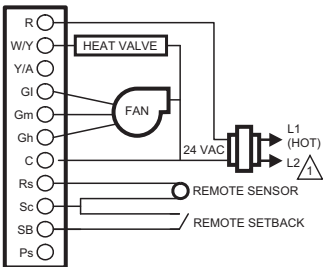

Fig. 14. Two pipes Heat-only wiring diagram (24 Vac shown).
- TB8575A1000 model, which is 24 Vac powered. Refer to Fig. 14–Fig. 20, beginning on page 9.